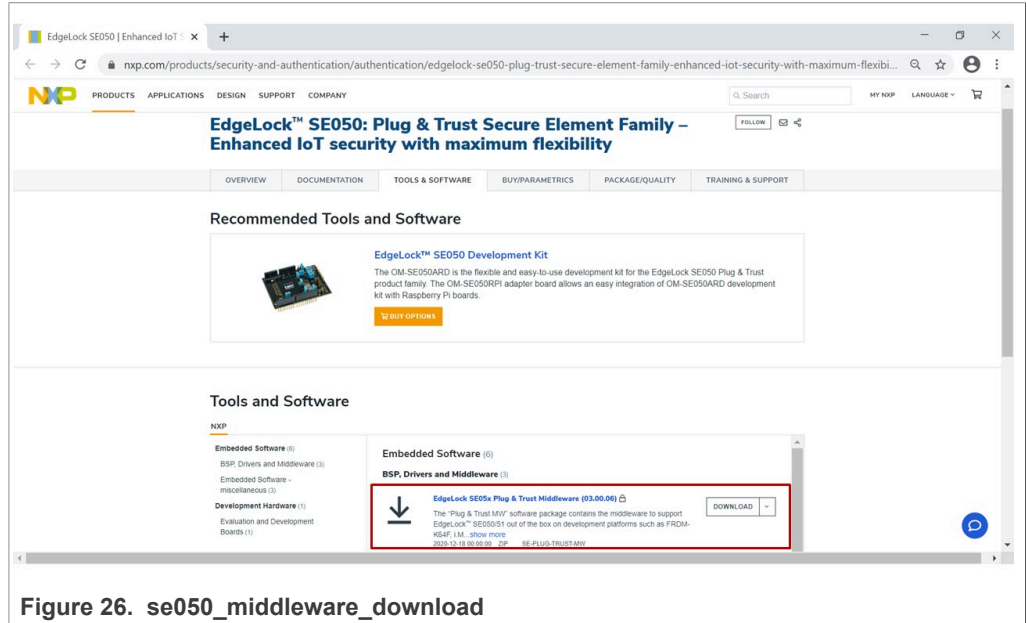

Figure 26. se050\_middleware\_download
1. Download "EdgeLock SE050 Plug and Trust middleware" from EdgeLock SE050 website under **Tools and Software** as shown in Figure 26.